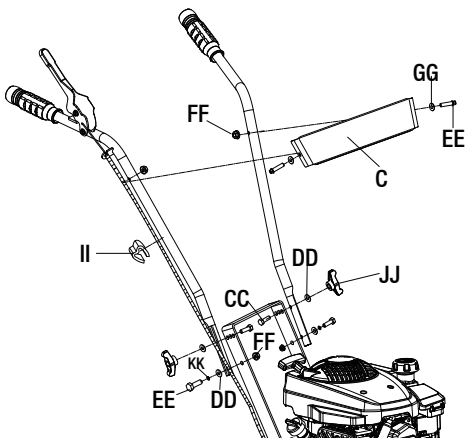

Figure 1-2
- Attach the upper handle to the lower bracket on the main body of the tiller. Properly align the holes and then secure with the M8x38 bolt (CC), the flat washer (DD), and the wing nut (JJ).
- Align the face plate (C) holes on the upper part of the handle. Insert the M8x35 bolt (EE) and flat washer (DD), use the nut (FF) to secure. See Figure 1-2.